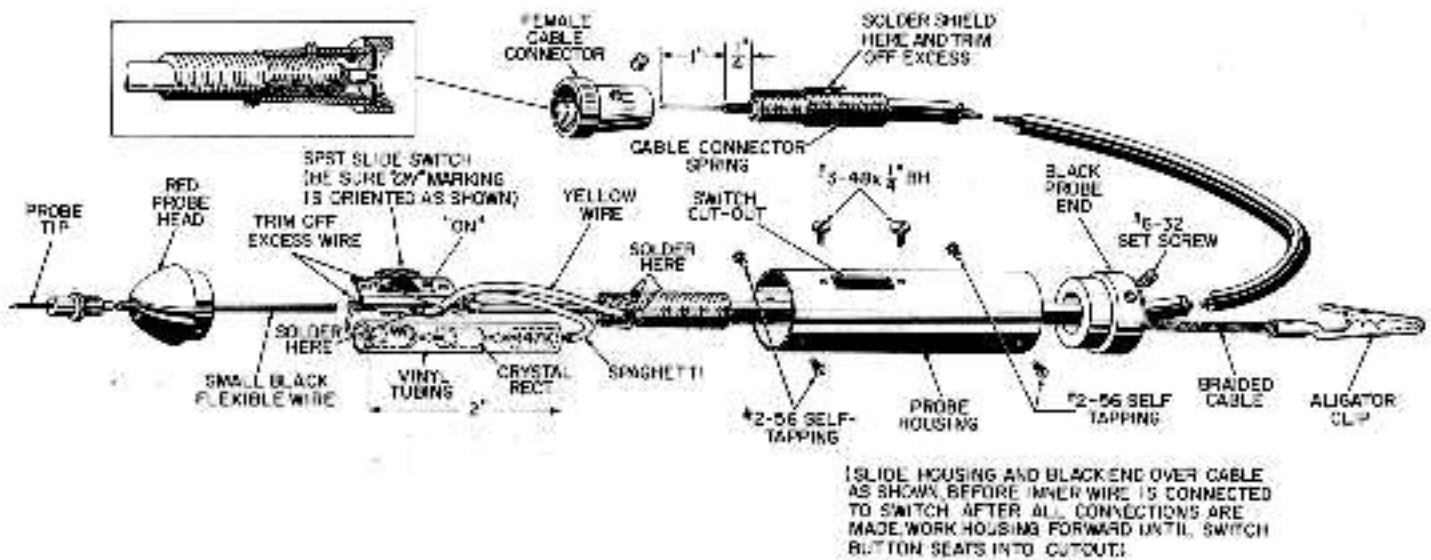

FIGURE 14
- ( ) 142. Slide the black probe end over the cable and spring, with the larger diameter portion of the probe end toward the rear. See Figure 14.
- ( ) 143. Slide the probe housing over the cable and spring, with the switch cut-out toward the front. See Figure 14.
- ( ) 144. Connect the tinned inner conductor of the cable to the SPST slide switch terminal at the "ON" end of the switch (Don't Solder). See Figure 14.
- ( ) 145. Connect the small, black flexible wire from the probe tip to the SPST slide switch terminal at the "OFF" end of the switch (Don't Solder). See Figure 14.
- ( ) 149. Slide the 2" length of vinyl tubing over the resistor-rectifier-capacitor network, bend the long resistor lead back and connect it to the SPST slide switch terminal at the "ON" end of the switch (Solder). See Figure 14.
- ( ) 150. Connect one end of a 2- $1/2$ " length of yellow hook-up wire to the probe cable spring (Solder). Connect the other end to the side of the slide switch housing (Solder). See Figure 14.
- ( ) 156. Loosen the set screw in the female cable connector body and remove the connector spring. Slide the connector spring over the end of the cable, with the small diameter end of the spring toward the cable end. See Figure 14.
- ( ) 157. Unwind the spiral shield back to the black outer insulation, twist the loose wires of the shield into a compact strand, then fold the shield back until the end extends onto the large diameter section of the spring. See Figure 14.